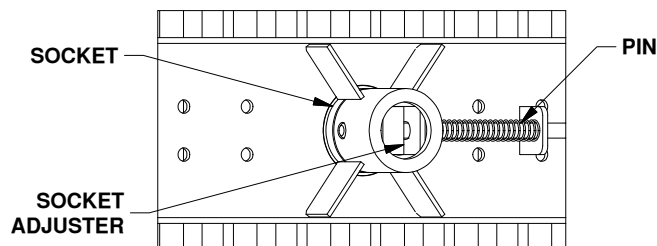

Figure B2: Typical view of Turnoverball gooseneck center under bed.
**WARNING:** Check the latch pin under the truck. Make sure that the latch pin has passed through both sides of the socket and that the pin is covered up inside the socket by the socket adjuster, see Figure B2.